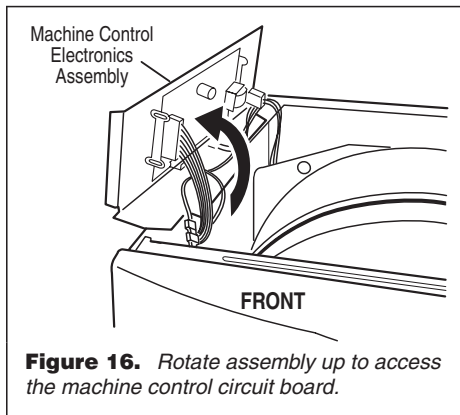

Figure 16. Rotate assembly up to access the machine control circuit board.
- As you remove the assembly from its mounting position, rotate the assembly up to access the machine control circuit board, and set it on the side panel. See figure 16.